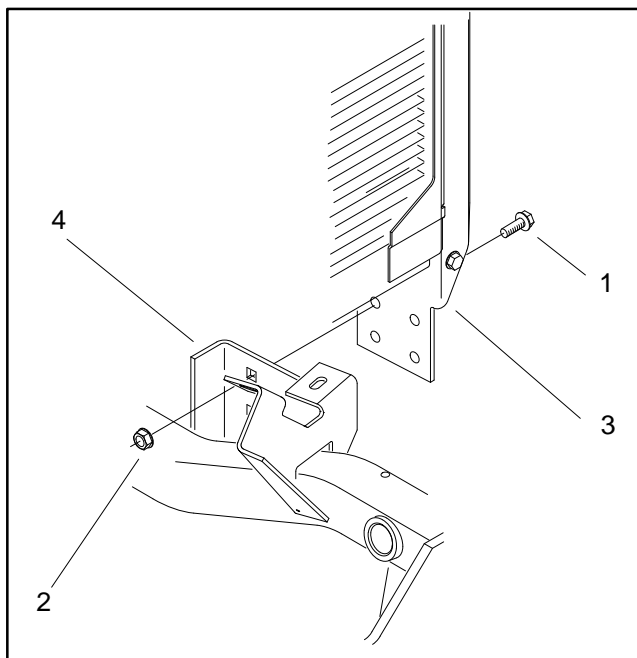

Figure 22
- K. Remove cap screw (10) and flat washer (11) from R-clamp (12). Pull wiring harness and hydraulic hoses away from the engine to keep them from snagging the engine when it is removed. The harness and hoses may be tied to the reservoir support brackets.
- B. Remove cap screws (1) and whiz nuts (2) from the radiator rear bracket (3) and frame (4) (Fig. 22).
- E. Install cap screws (1) and whiz nuts (2) to the radiator rear bracket (3) and frame (4) (Fig. 22).